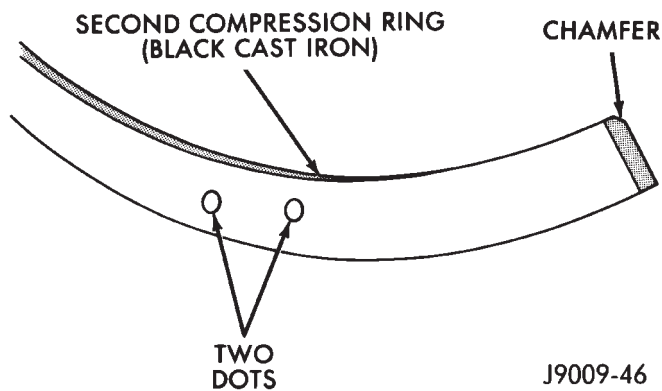
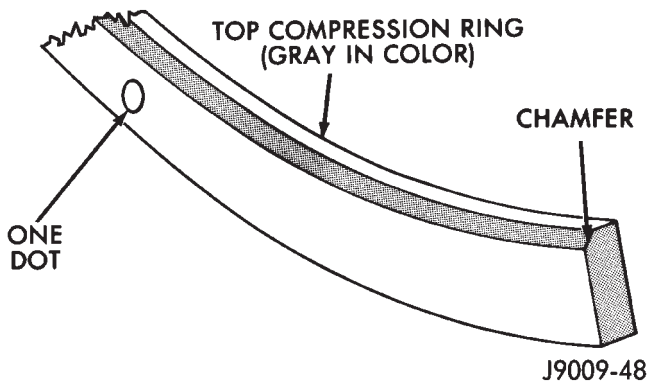
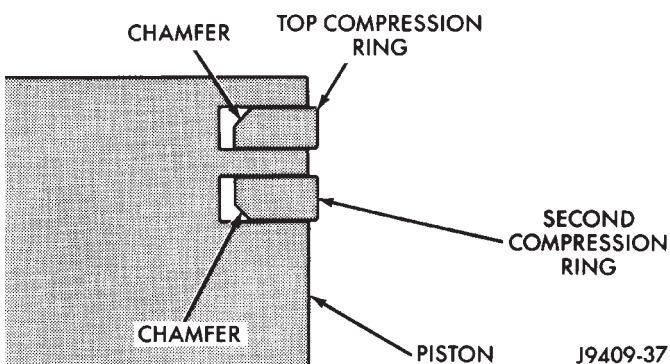

Fig. 8 Second Compression Ring Identification (Typical)
Fig. 9 Top Compression Ring Identification (Typical)
Fig. 10 Compression Ring Chamfer Location (Typical)
- (2) Install rings and confirm ring side clearance:
- (b) Install the second compression rings using Installation Tool C-4184. The compression rings must be installed with the identification mark face up (toward top of piston) and chamfer facing down. An identification mark on the ring is a drill point, a stamped letter "O", an oval depression or the word TOP (Fig. 8) (Fig. 10).
- (c) Using a ring installer, install the top compression ring with the chamfer facing up (Fig. 9) (Fig. 10). An identification mark on the ring is a drill point, a stamped letter "O", an oval depression or the word TOP facing up.